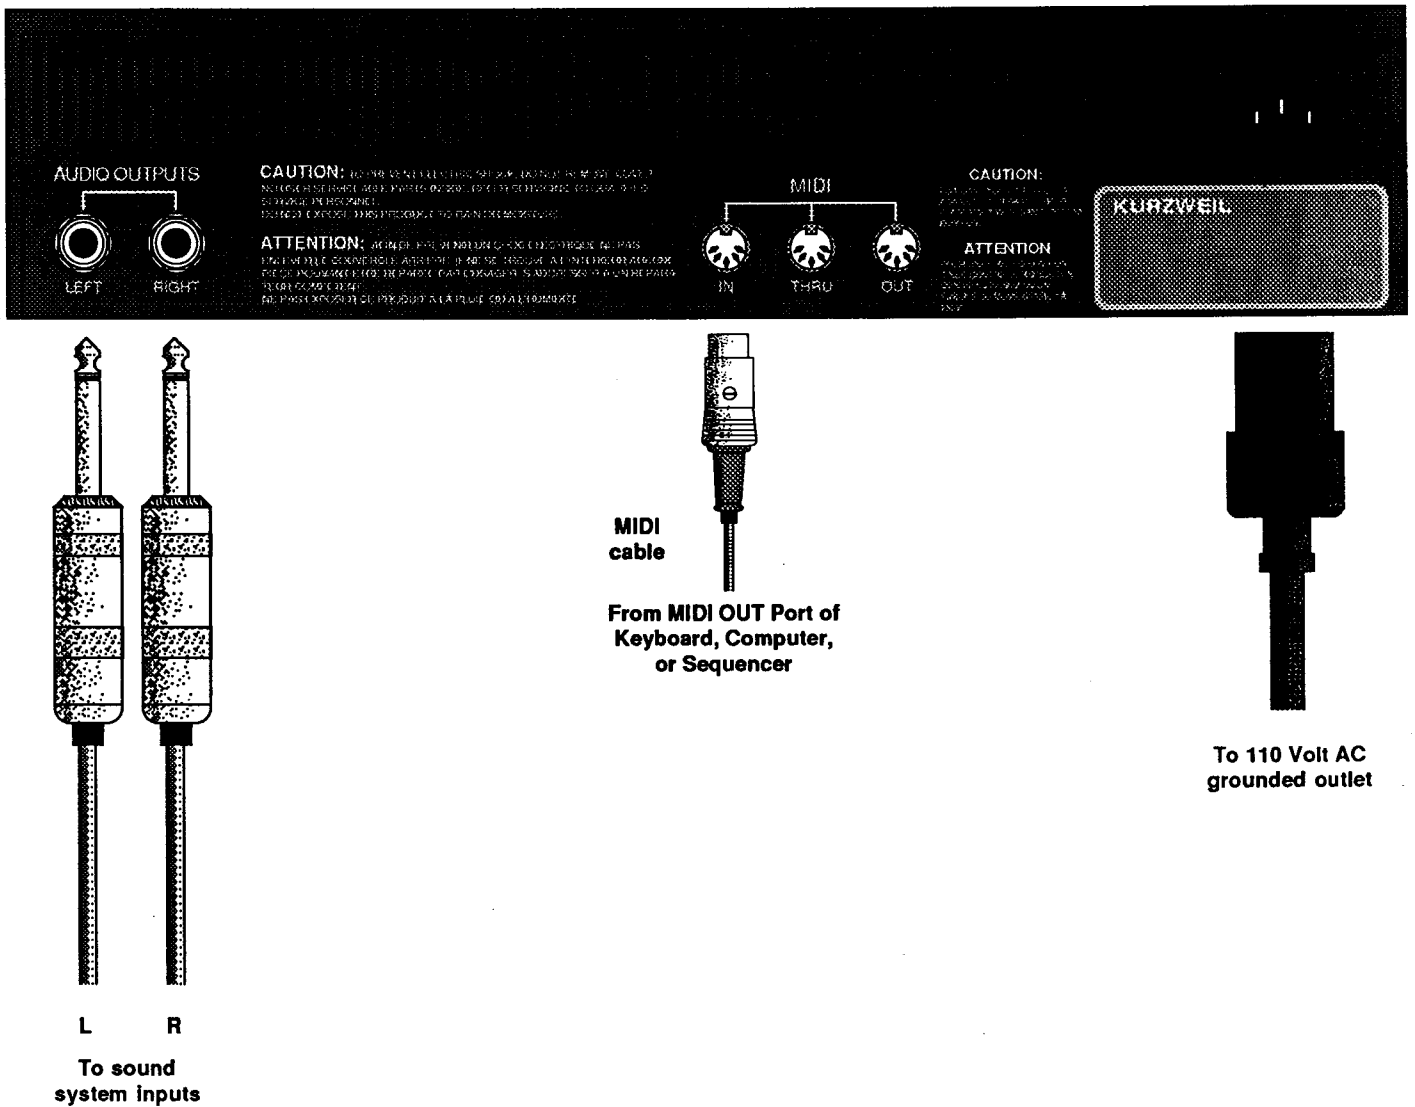

Figure 2-2 Connecting The Kurzweil 1200 Pro
The specific information that you need to perform these steps is given in this chapter. Refer to Figure 2-2 when you make your connections, and be sure to keep track of the Left and Right audio channels.
- Check your audio connections against Figure 2-2.